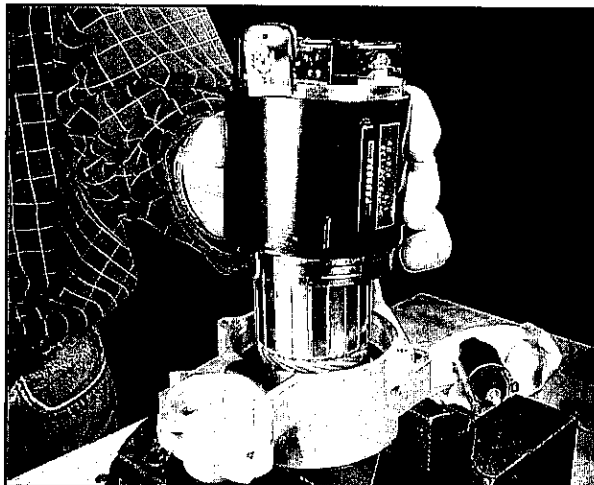

Fig. 32
For ease of disassembly and assembly, clamp drive end housing in a vise as shown, **Fig. 32**.
4. Remove starter housing from drive end cap, **Fig. 32**.